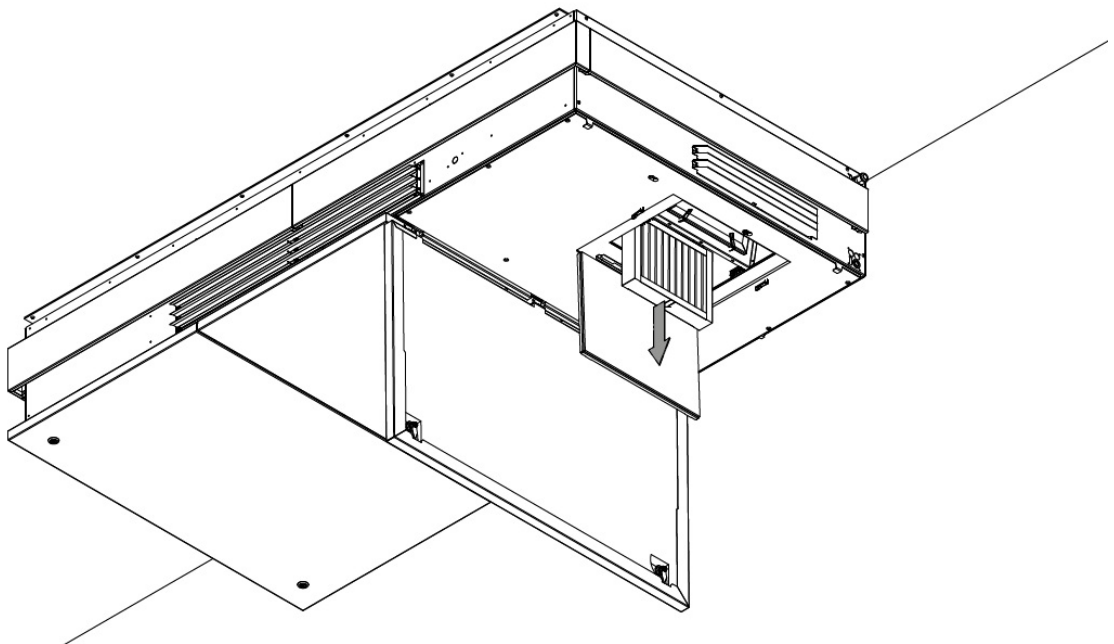
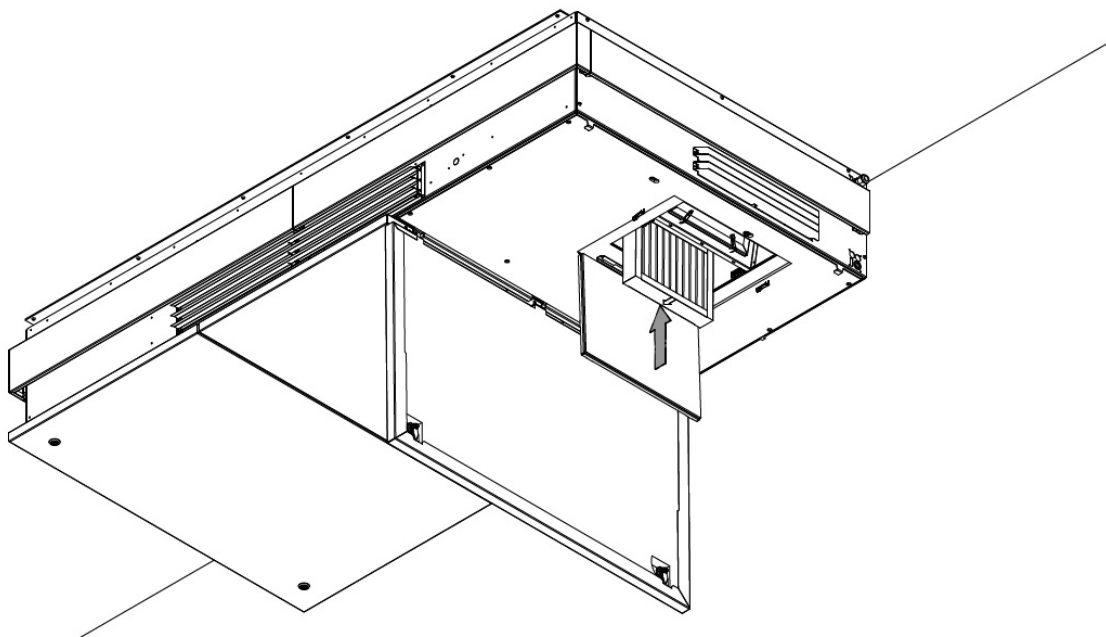

Figure 30: Take the fine filter out
Figure 31: Replace the fine filter with a new one
7. Take the filter out and replace it with a new one, see Figure 30 and Figure 31.